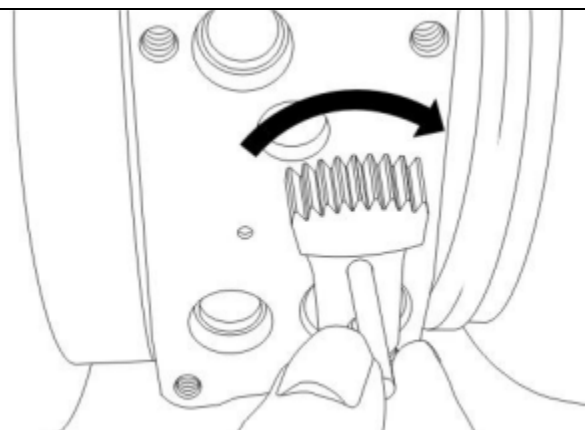

FIGURE 13
16. Rotate the sector gear fully clockwise. Make sure that the alignment pin fits through the sector gear into the alignment hole in the housing (FIGURE 13). The diameter of the alignment hole is 5mm (0.197 inch).